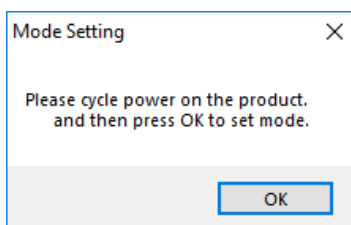

Figure 10. Cycle power warning
*Note that 500 Hz Data Mode at 115,200 baud is a special case. In this data mode and baud rate, the bits/second is below the 20% threshold requirement and therefore requires additional steps to change the UUT to other data modes. When changing to another appropriate data rate (i.e. 100 Hz, 200 Hz), Glamr will prompt the user to cycle power on the UUT as in Figure 10.